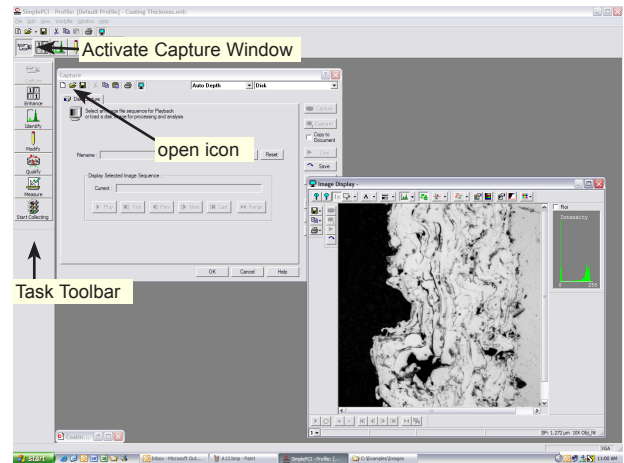
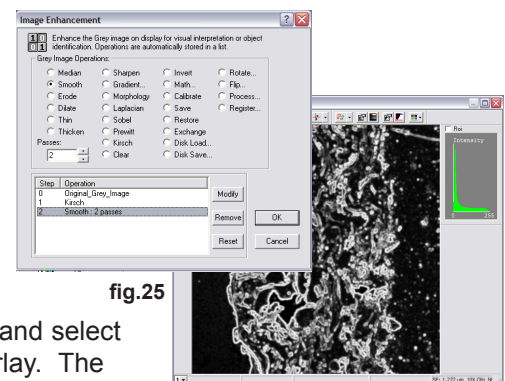
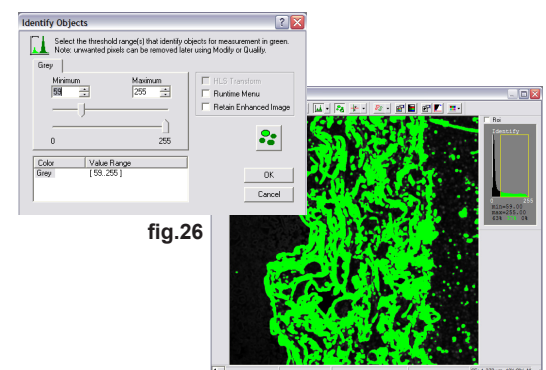

fig.24
fig.25
fig.26
2. Click the camera icon to activate the **Capture** window and the **Image Display** (fig.24)
3. In the Capture window select **Disk** from the top-right dropdown menu (fig.24). Click the **Open** icon. Locate **Coating Thickness.tif** in the example CD. **Examples/Examples/Images/Coating Thickness.tif > Open**. The image will appear in the image display.
4. Close the **Capture** window. Click the **Enhance** icon in the **Task** toolbar (fig.24). Apply a **Kirsh** and a **Smooth** filter to the image. The **Kirsh** filter uses a grey slider intensity gradient of a 3x3-pixel neighborhood in any direction. It enhances the current image to highlight object boundaries (fig.25).
5. Click the **Identify** icon in the **Task** toolbar (fig.24). Adjust the minimum to 27 and the maximum to 255 or move the sliders until the enhanced image of the coating is covered with a green overlay (fig.26).